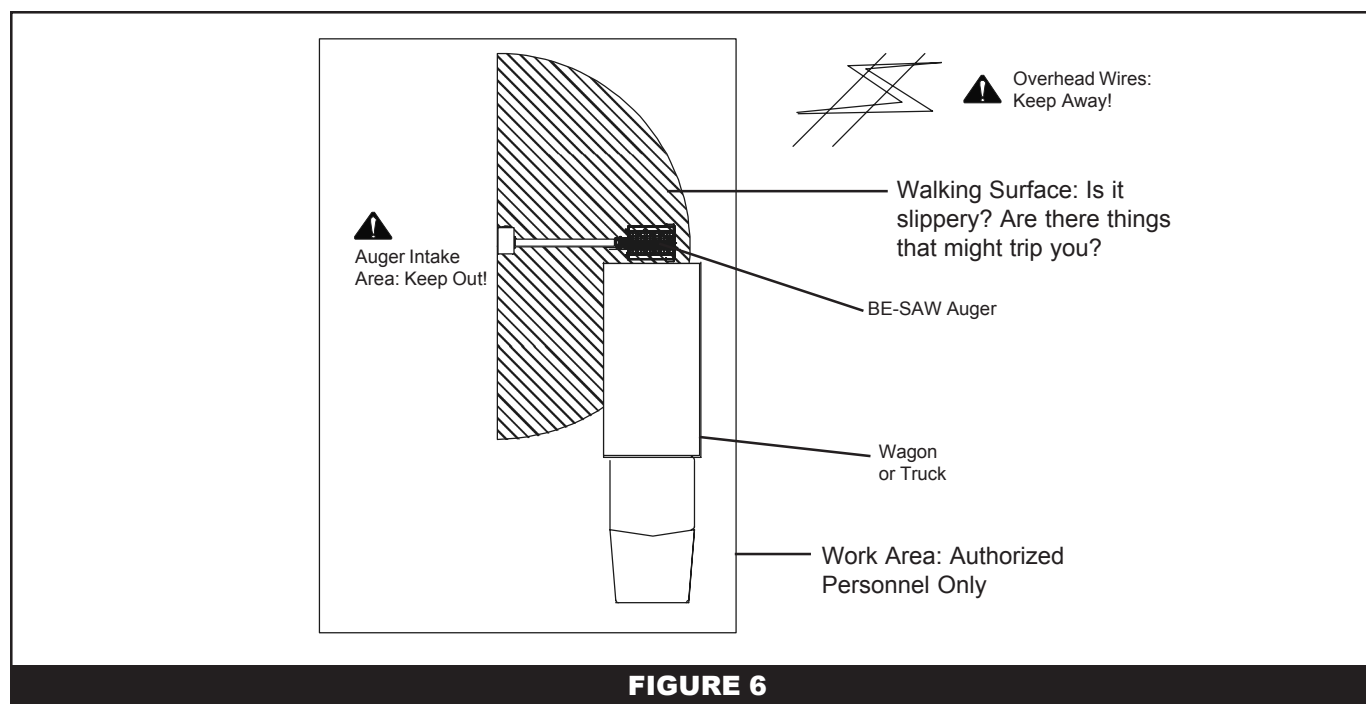

FIGURE 6
- A. Before starting the auger, establish the designated work areas. Figure 6 below shows where boundaries should be established.